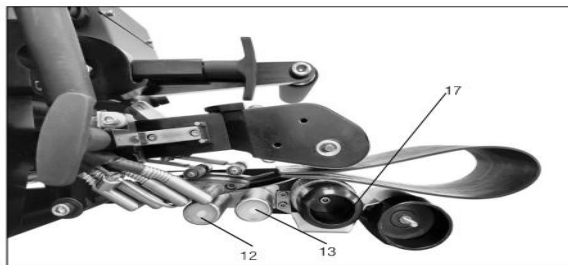

Figure 4
The lower contour rollers (#12, #13, Figure 4) are located below the heating wedge and are mounted to the lower frame directly in front of the lower nip roller. For this adjustment you will need a 13mm open end wrench and a 4mm and 6mm Allen wrench.
- With the nip pressure lever in the up position and the wedge in the disengaged position, insert the adjustment material that you cut earlier from the template into the WGW 300 as shown in Figure 4 above:
- Please pull out rubber plugs before adjusting the both rollers (#12 and #13 in Figure 4) and insert them back to original position after adjustment finished.
- Using a 13mm open end wrench, loosen the lockdown bolt (hex head) for the rear lower contour roller (#13, Figure 4). You can now adjust the height of the wedge by adjusting the rear lower contour roller up or down with a 4mm Allen wrench at the end of the roller. Once the desired position has been achieved, tighten the lockdown bolt (hex head) then check the adjustment again to make sure it did not move when tightened.
- The most important adjustment is the positioning of the wedge in relationship to the lower nip roller (#17, Figure 4). The distance between the lower tip of the heating wedge and the lower nip roller should be slightly more than the thickness of the material you will be welding. The distance is set by adjusting the rear lower contour roller (#13, Figure 4) up or down.
- Figure 4 until it just comes in contact with the material. The roller should have a slight amount of resistance as you rotate it. If you adjust it to tight it will rock the wedge and change the rear roller (#13) adjustment.
- Move the heating wedge forward or backward (left or right) so that there is plenty of clearance between the tip of the wedge and the upper and lower nip rollers. When adjusting WGW 300 for welding HDPE the tip of the wedge should have the same clearance as shown in Figure 4.